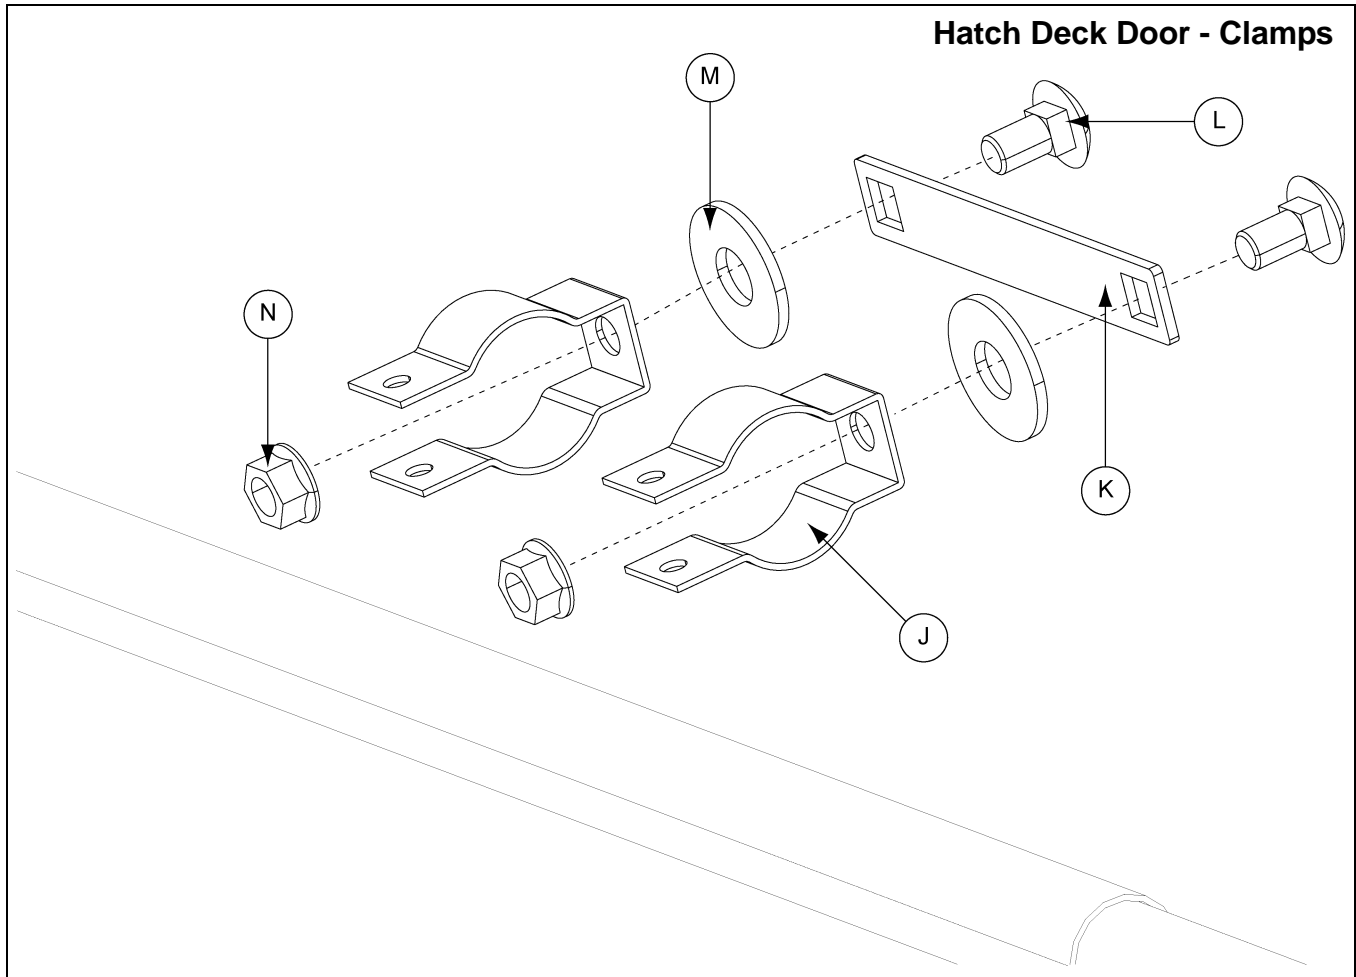

Figure 11E
7. Assemble pipe clamps (S-10139) (J) to the magnet mount hatch bracket (HP1648LMM) (K). Insert 3/8" x 3/4" carriage bolts (L) through the magnet mount hatch bracket (HP1648LMM) (K), 1/2" flat washer (M) and pipe clamp (S-10139) (J). Fasten with 3/8" nut (N). *(See Figure 11E.)*